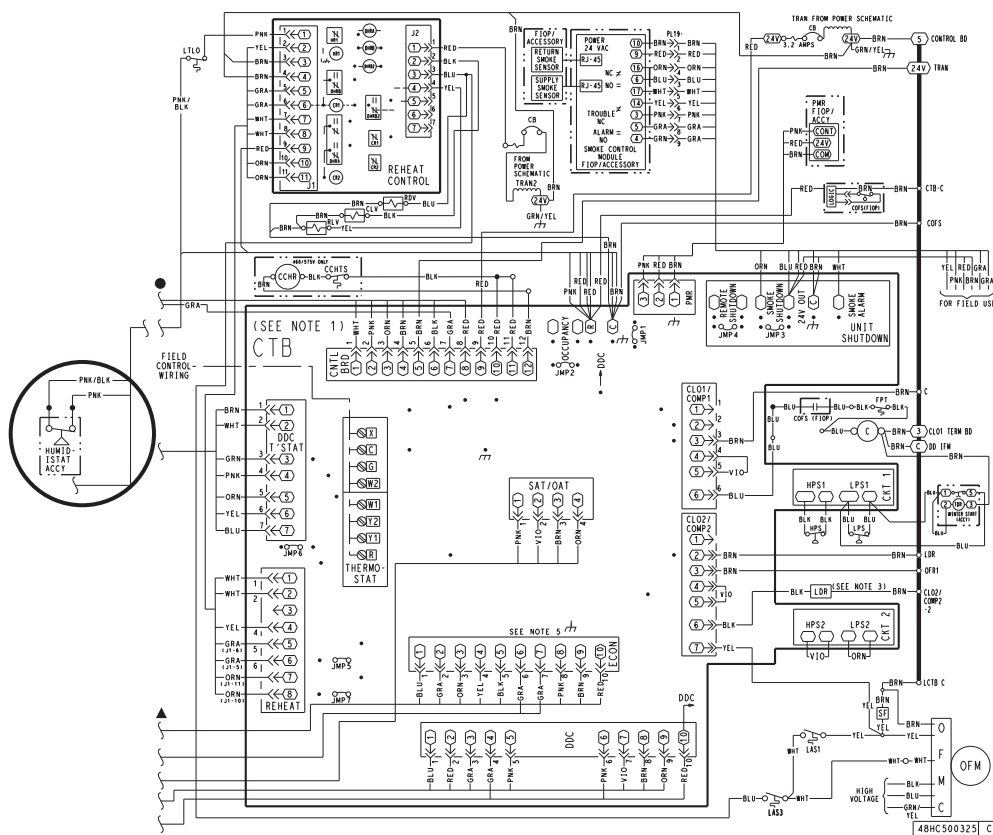

Fig. 48 — Typical Humidi-MiZer® Adaptive Dehumidification System Humidistat Wiring
3. Use wire nuts to connect humidistat cable to the leads in the low-voltage wiring (as shown in Fig. 48), connecting PKN to PNK and PNK/BLK to PNK/BLK.